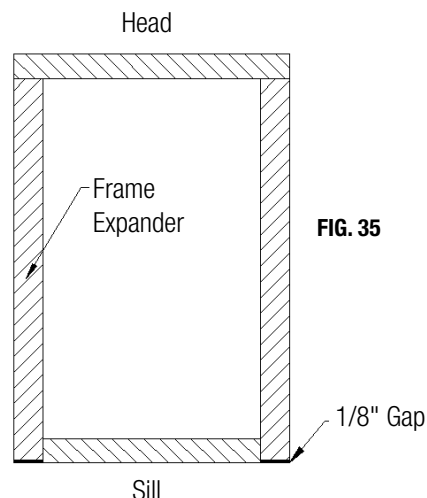

FIG. 35
- H) Cut frame expander to the appropriate size. (Fig. 35) **Note: Make sure to apply frame expanders as shown in the diagram below.**